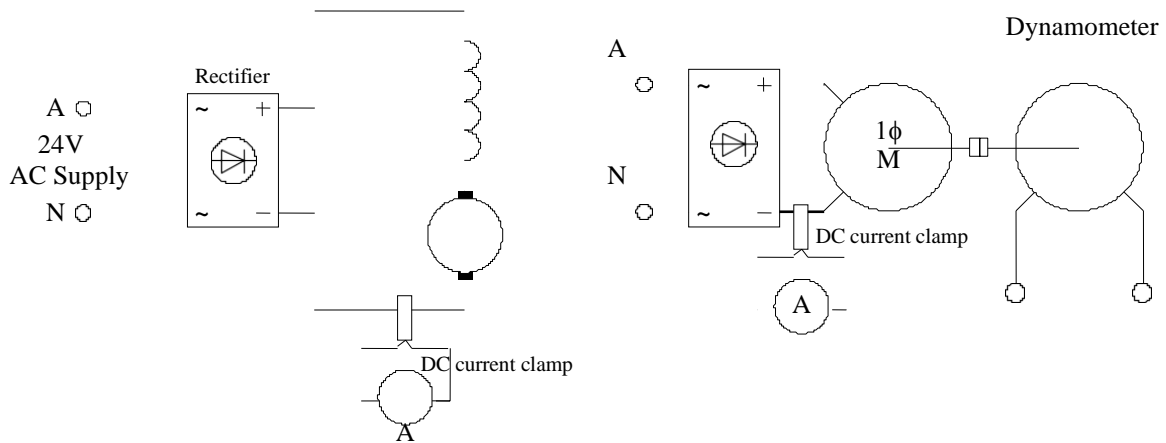

Figure 1
1. Connect the series motor as shown in figure 1 and couple the dynamometer and motor shafts.